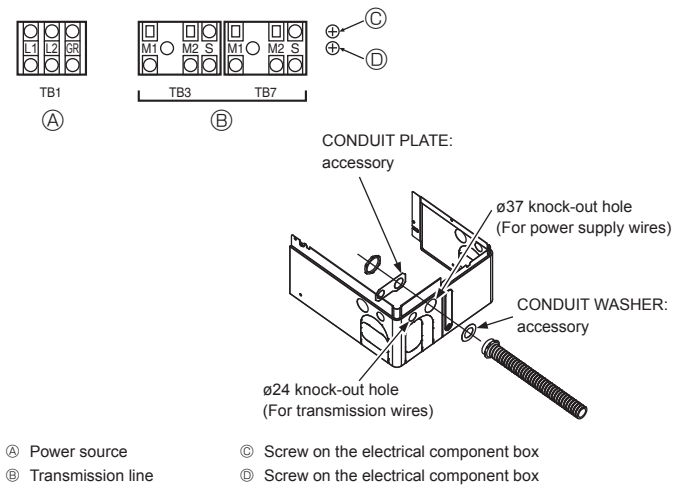

Fig. 6-1
6.2. Control box and connecting position of wiring (Fig. 6-1)
- Connect the indoor unit transmission line to transmission terminal block (TB3), or connect the wiring between outdoor units or the wiring with the centralized control system to the centralized control terminal block (TB7). When using shielded wiring, connect shield ground of the indoor unit transmission line to the screw (Ⓢ or Ⓣ) and connect shield ground of the line between outdoor units and the central control system transmission line to the shield (S) terminal of the centralized control terminal block (TB7). In addition, in the case of outdoor units whose power supply connector CN41 has been replaced by CN40, the shield terminal (S) of terminal block (TB7) of the centralized control system should also be connected to the screw (Ⓢ or Ⓣ) using attached lead wire.